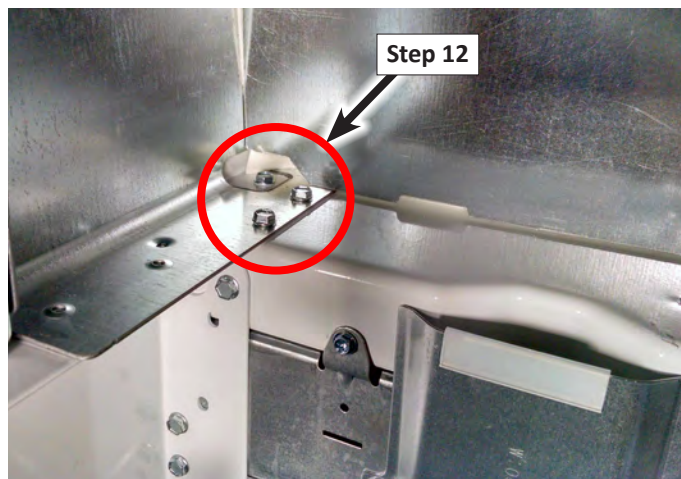

Figure 7
12. With two people, one removing screws and the other supporting the dryer. From the back, remove three (3) 5/16" screws per side attaching dryer to washer top. See Figure 7.